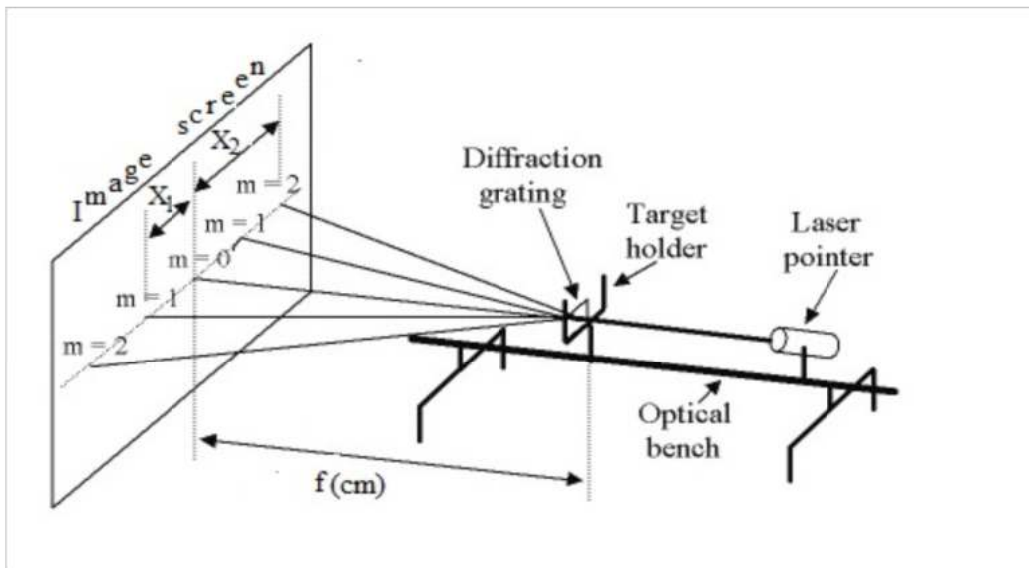

Fig. 5.1: Experimental arrangement for Laser diffraction through the grating.
1. Fix the Laser pointer on a firm stand and place the diffraction grating with a support such that the Laser beam falls perpendicularly on the plane of the grating as shown Fig. 5.1.